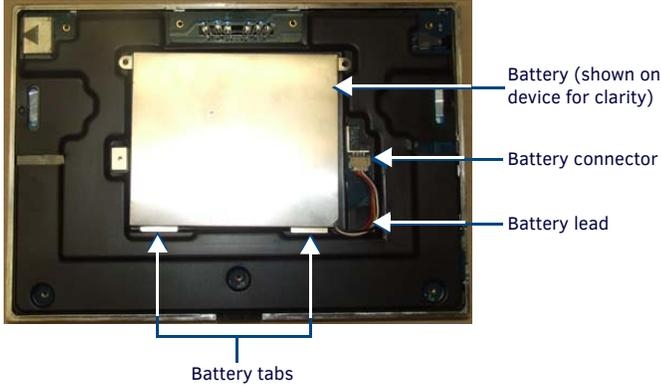

FIG. 4 INTERIOR OF MVP-9000I, INCLUDING FEMALE BATTERY CONNECTOR
- Carefully remove the back of the device and detach the battery lead at the battery connector (FIG. 4). This will allow the back cover to be detached from the device.
- Attach the new battery to the back cover, either using the two screws used to hold the previous battery to the cover or with the two replacement screws included with the MVP-BP-9 kit. Slide the two tabs on the bottom of the battery (FIG. 4) into the two slots on the back cover and then secure the battery to the back cover with the screws.
- Make sure to seat fully the battery plug to the connector in the device (FIG. 4). If fingers cannot be used, use a clean, nonconductive stick or probe to seat the connectors.